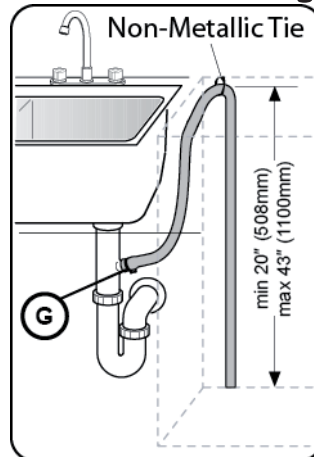

Figure 11
1. Directly under the sink dishwasher drain connection, as shown in **Figure 11**.